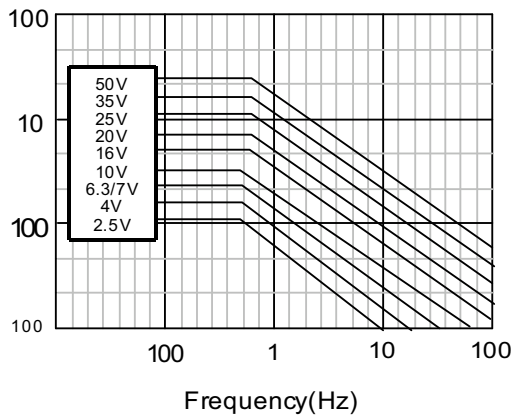

Fig.6 Maximum permissible ripple voltage
- ▷ The maximum permissible ripple voltage varies with the rated voltage. Ensure that ripple voltage does not exceed the values shown in Figs 6 and 7. If, however, the capacitors are used at a high temperature, the maximum permissible ripple voltage must be calculated as follows: